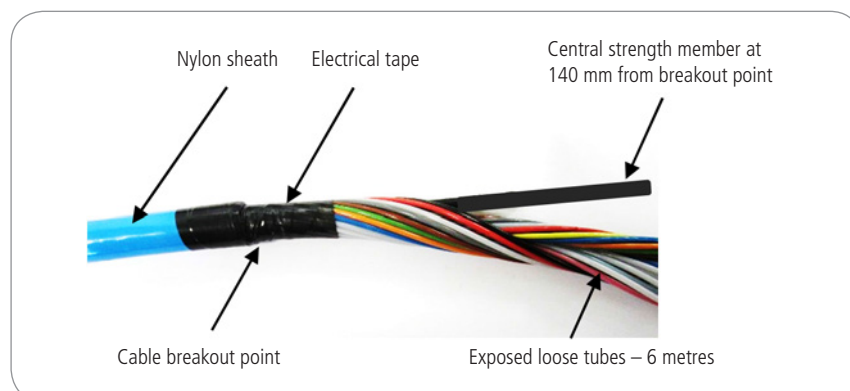

Figure 2.
- The use of rubber vulcanising or electrical tape at the cable breakout point is recommended to prevent tube kinking. (AFL part number TMES023) see **Figure 2**.